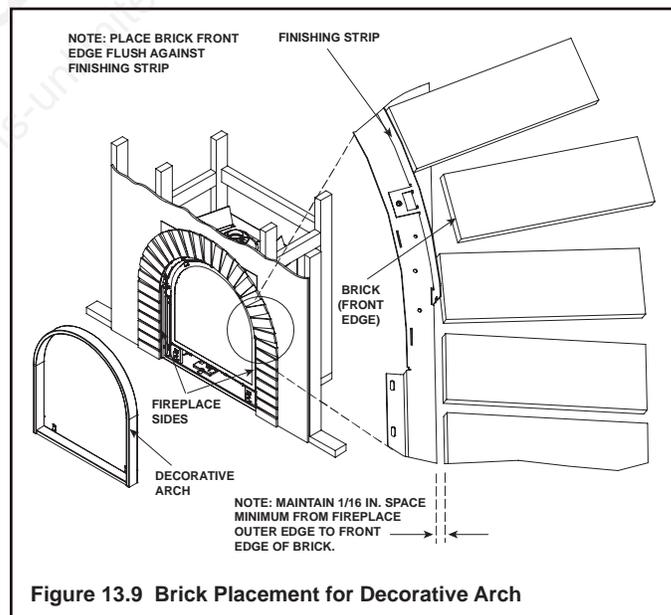

Figure 13.9 Brick Placement for Decorative Arch
2. Brick Placement: Place brick front edge flush against finishing strip. On both sides of fireplace maintain a 1/16 in. space minimum from fireplace outer edge to front edge of brick. This will assure proper fit of Decorative Arch (see Figure 13.9).